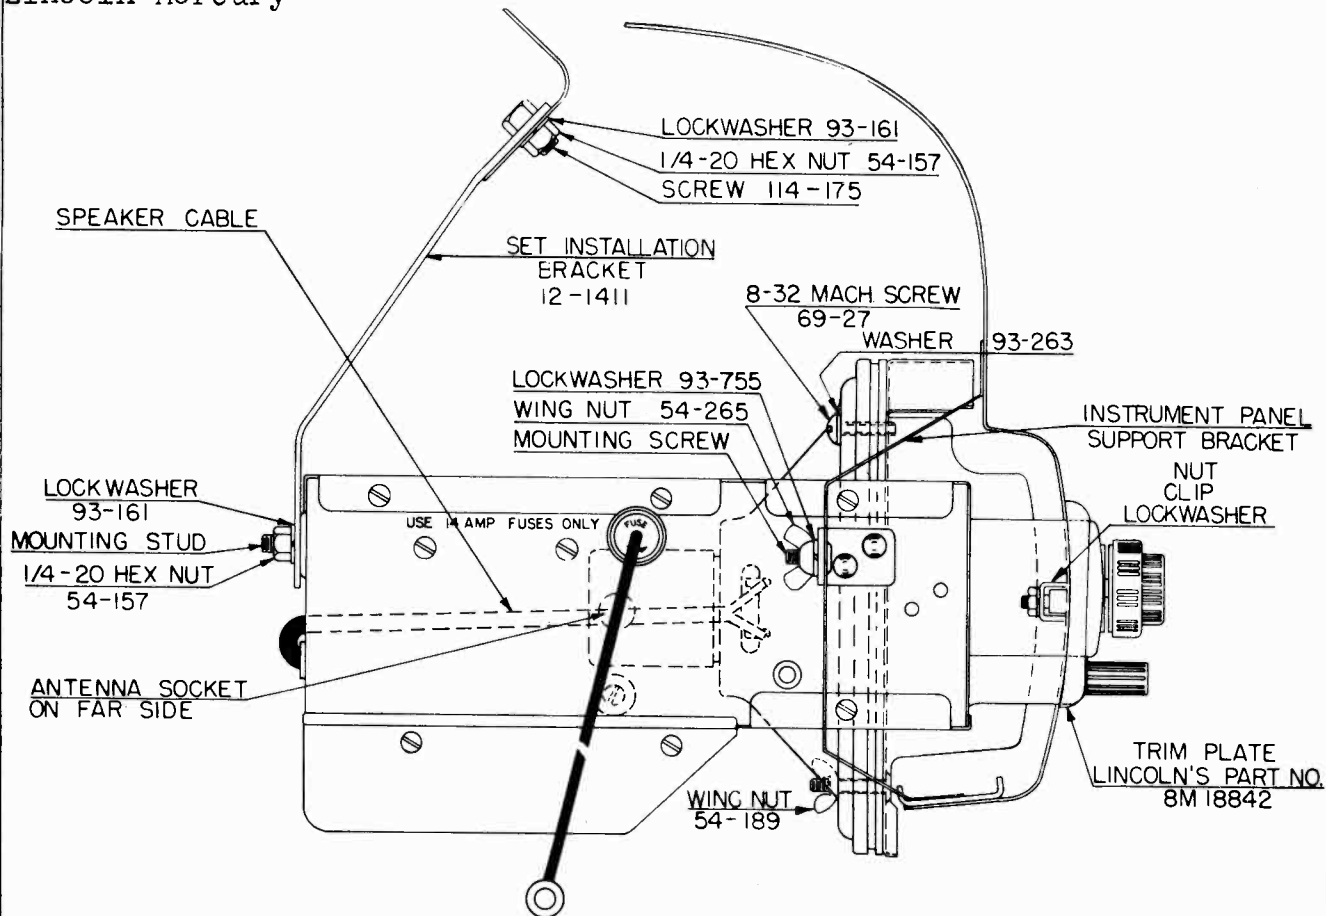

Fig. 1. Set Installed, Cut Away View
Figures 1 and 2, illustrating the escutcheon plate, control knobs and the installed receiver, are given here to facilitate removal and reinstallation of the receivers when service or repair is necessary.
2. Loosen the top of the set installation bracket, and remove the bottom of the bracket from the set. (Fig. 1.)
3. Remove the 8/32 wingnuts and lockwashers from the instrument panel support brackets. (Fig. 1.)
To take the speaker from the car, remove the stamped wingnut and the 8/32 machine screws from the rear of the instrument panel. (Fig. 1.)